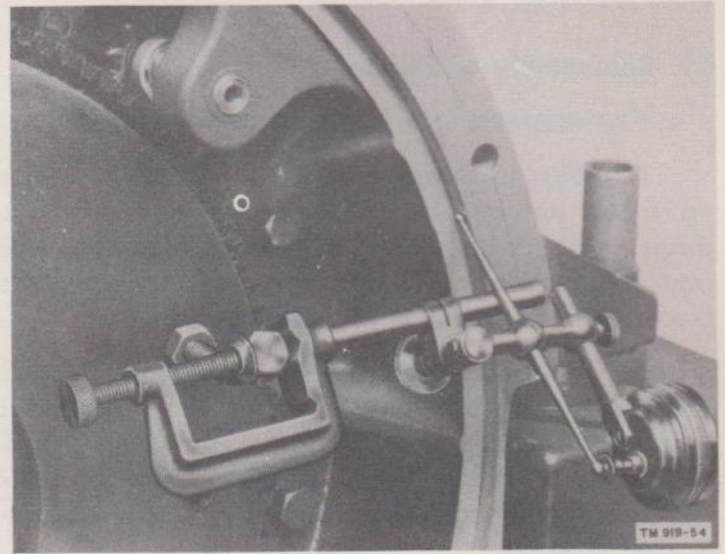

Figure 54. Checking concentricity of flywheel housing with flywheel.
(1) Secure the flywheel housing (45) to the block.
(2) Loosen the bolts and check the concentricity of the flywheel housing bore with the flywheel as follows: Position a dial indicator on the flywheel as shown in figure 54. Turn the crankshaft slowly and observe the reading on the indicator. Shift the flywheel housing until centered within a tolerance of .003 inch. Then tighten the bolts. Recheck the concentricity after tightening.